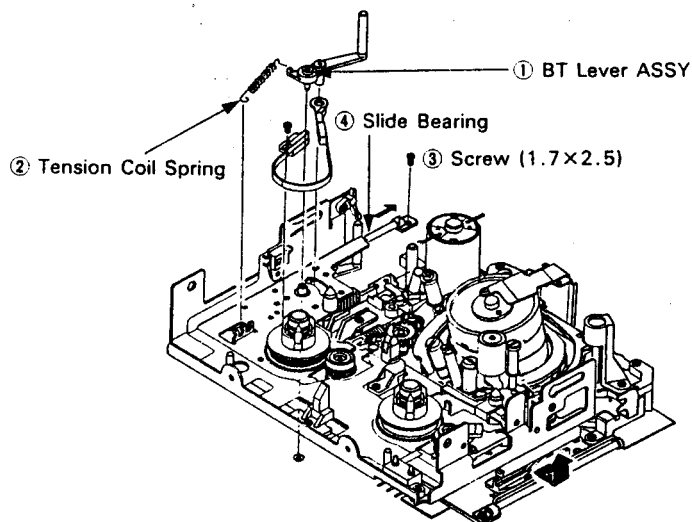

Fig. 2-11.
(1) Removal procedure (See Fig. 2-11, 12.)
- 1) Insert pin ⑧ of BT lever ASSY ① into hole ⑦ of BT band ASSY ⑥.
- 2) Insert pin ⑨ into shaft ⑩ of the reel chassis and pin ⑧ into slot ⑪, respectively.
- 3) Secure pin ⑨ of BT lever ASSY ① with Washer ⑤ on the rear of the chassis.
- 4) Secure BT band ASSY ⑥ with screw ⑫.
- 6) Install tension coil spring ②, referring to Fig. 2-11.